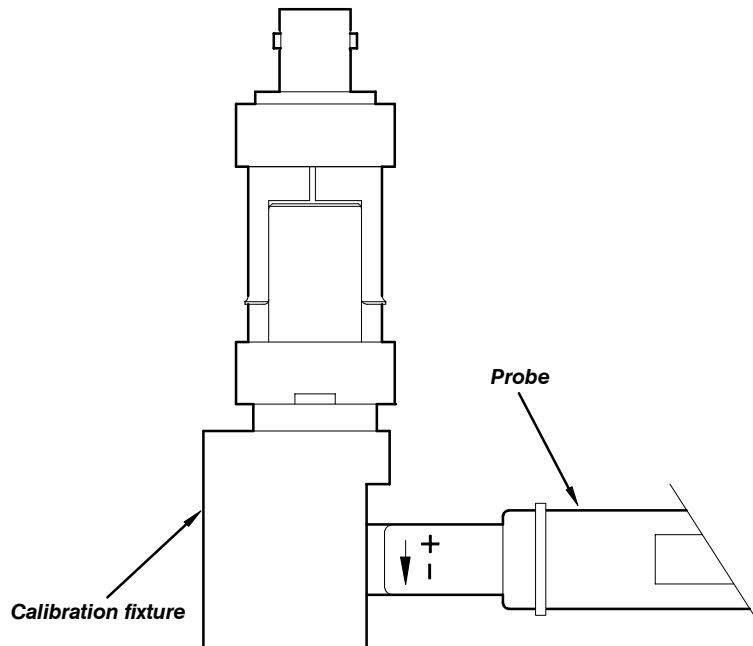

Figure 7: Connecting the probe to the calibration fixture
6. Connect the probe to the current probe calibration fixture. Figure 7 shows the proper probe orientation to the current probe calibration fixture.